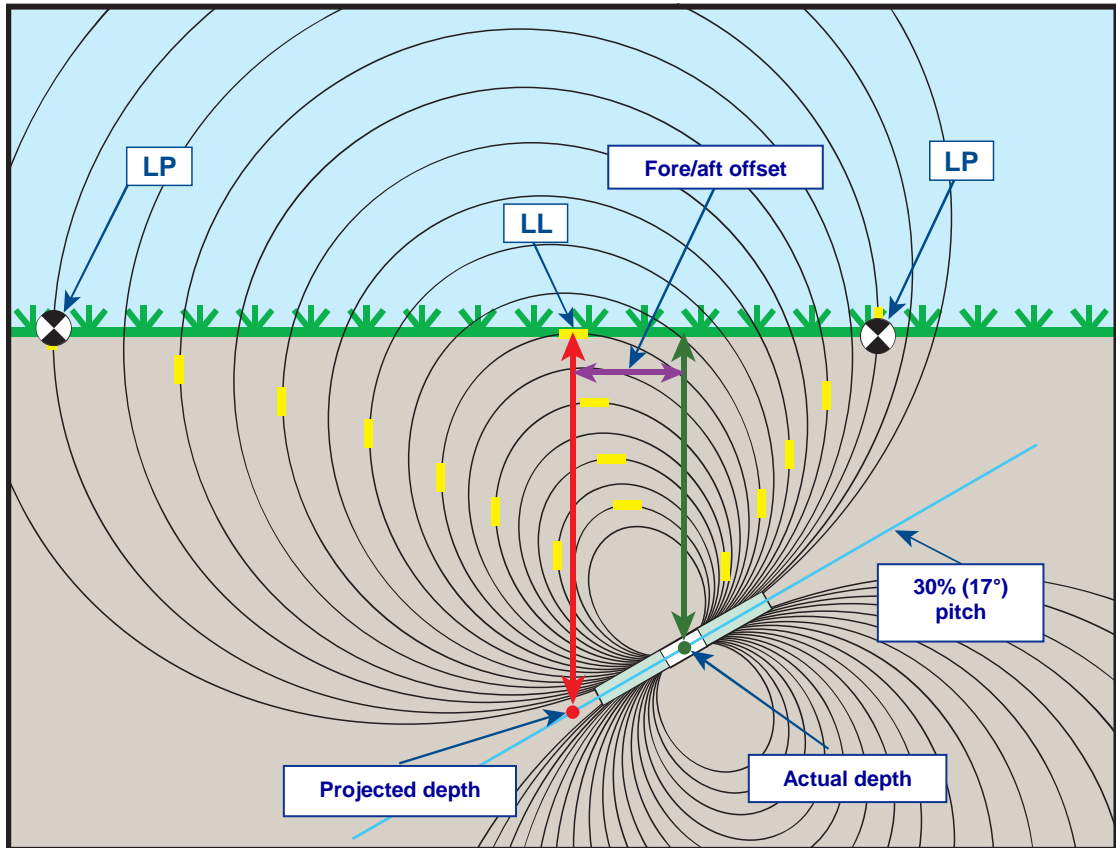

Figure B2. Projected Depth vs. Actual Depth and Fore/Aft Offset When Steep and Deep
The projected depth and fore/aft offset, shown in Figure B2, must be accounted for when the transmitter is steep and/or deep. See the tables provided later in this appendix (Table B1 and Table B2) to determine the actual depth and fore/aft offset when you know the displayed (projected) depth and pitch of the transmitter.
Figure B2 shows a transmitter positioned in a drill string that is meant to illustrate drilling at either a positive or a negative pitch—the pitch is positive if you are drilling left to right, and it is negative if you are drilling right to left. The transmitter’s signal field is also pitched at the same angle as the transmitter. The locate line (LL), which is where the depth measurement is taken, is the horizontal component of the transmitter’s signal field flux lines. That is, the LL is found where the flux lines are horizontal, as illustrated with short horizontal yellow lines in the figure above.
The locate points (FLP and RLP) are also shown in Figure B2. These points are located at the vertical components of the signal field, as illustrated with short vertical yellow lines in the figure above. Note that the locate points are not the same distance from the LL when the transmitter is pitched. Again, this situation requires compensation for the projected depth and the fore/aft offset.